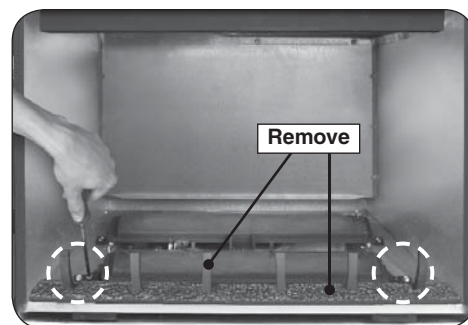

Fig. 29-2 Remove grate & front floor panel
3. Remove the grate. Use a Phillips screwdriver to remove the two screws found on each side of the grate. Then remove the front floor panel. See Fig. 29-2.